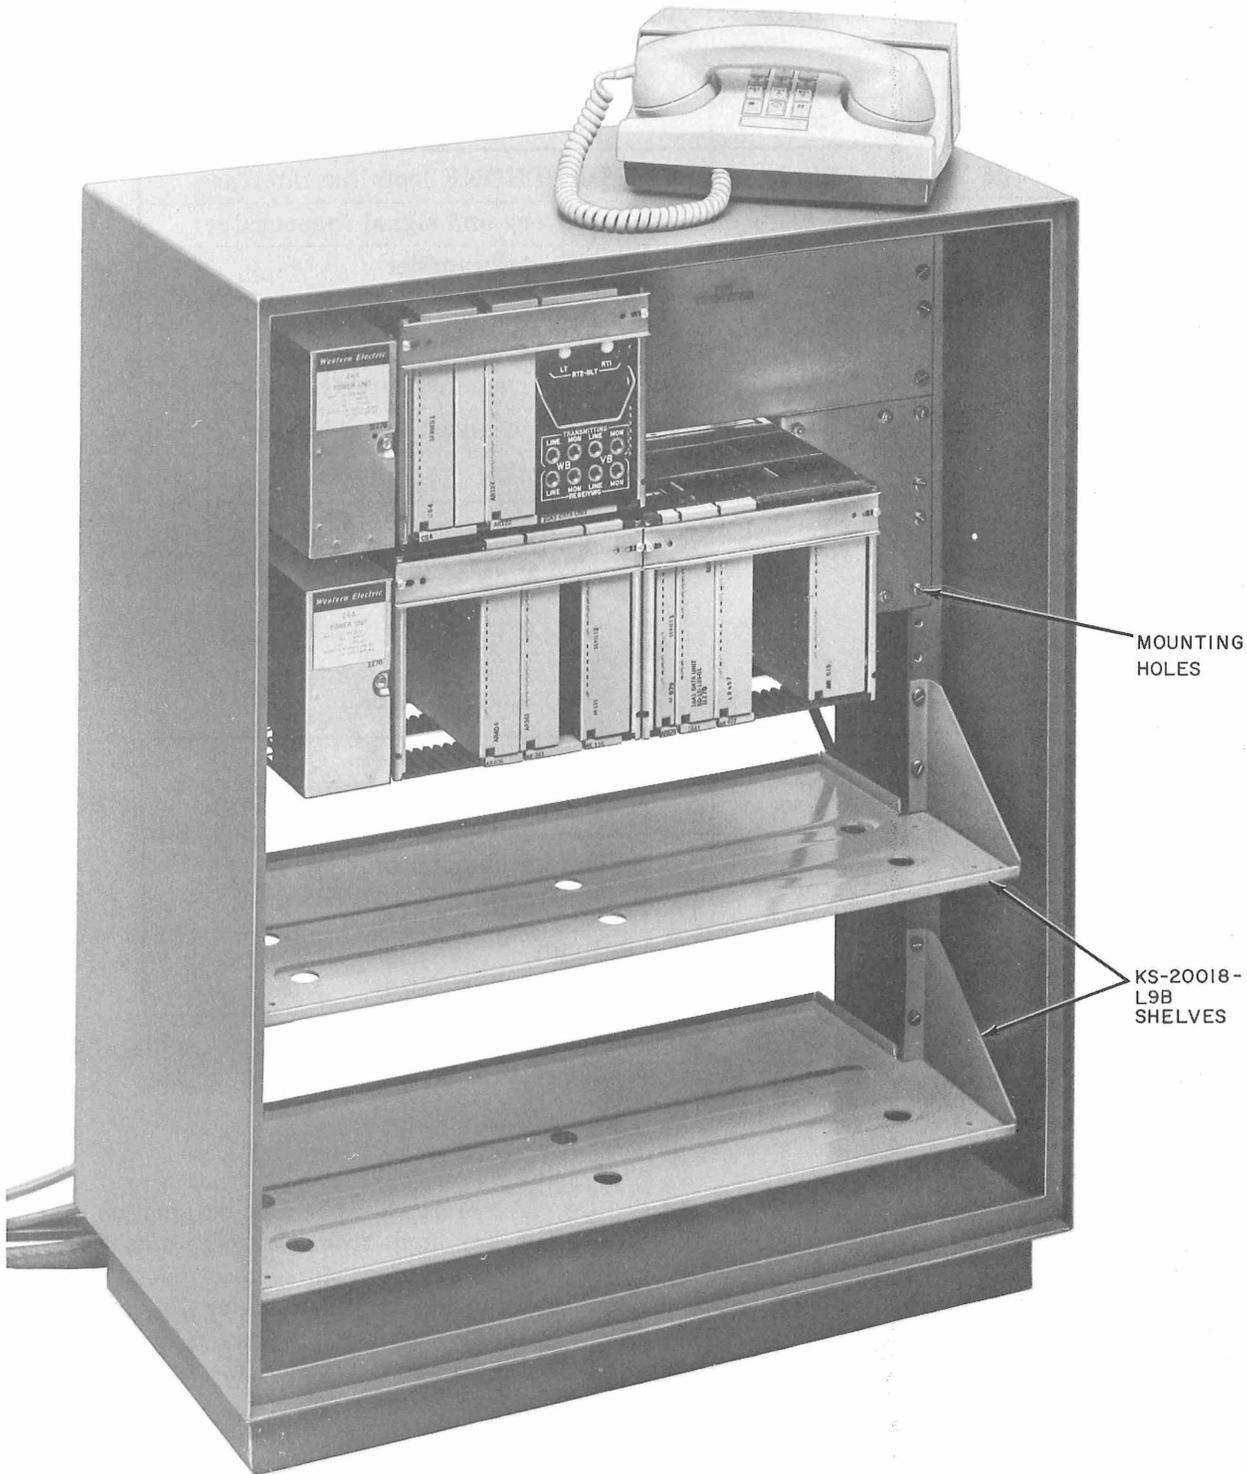

Fig. 5—Location of KS-20018-L9B Shelves When Mounted in Cabinet
3.11 Two KS-20018-L9B shelves may be provided within the cabinet for mounting the DAS 801C4 and the 114A Interconnecting Unit as required. The shelves should be mounted from the front of the cabinet in the positions shown in Fig. 5 and secured with the screws provided.